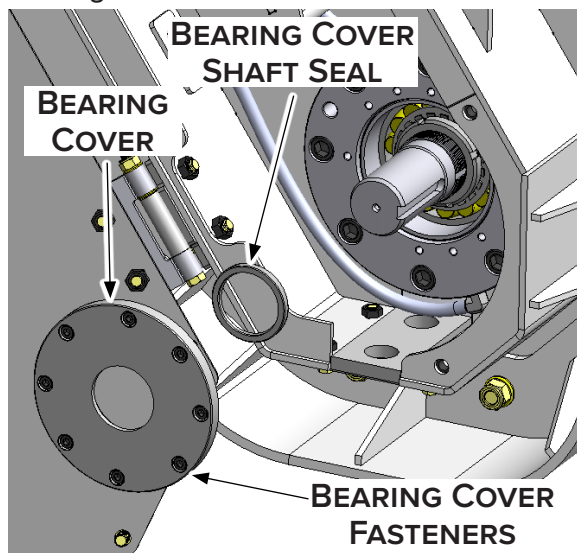

Figure 24
17. Install the bearing housing cover, and torque the fasteners to 25 lbf·ft (34 N·m) with a 6 mm Allen key and medium strength threadlocker. See Figure 24.